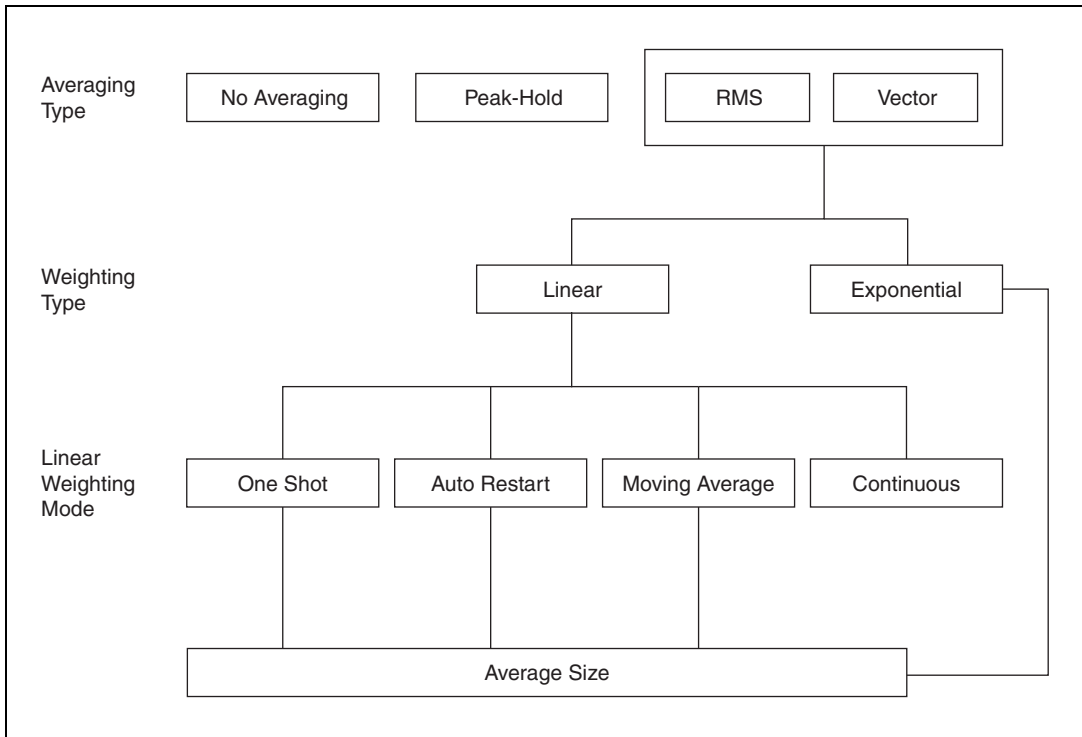

Figure 5. RFSA Demo Panel Spectrum Averaging Options
4. Specify averaging applied to returned data in **Averaging Type**. Figure 5 illustrates the hierarchy of options for spectrum averaging.